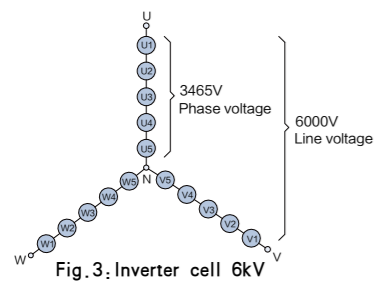

Fig. 3: Inverter cell 6kV
- Each inverter unit is a single-phase 2-level inverter and can reach 69V output voltage. As shown in Figure 3, each phase at the 6kV level includes 5 pieces of inverter unit connected in series and the phase voltage is approximately 3,465V. The star connection is used for three phases and the line voltage can reach 6,000V.